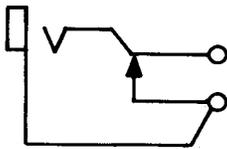

Fig. 10—232A or C Jack
2.10 232A and C: These single-mounted jacks (Fig. 10) are used with 1D, 1E, 153, 209, 241, 305, 327, 328, 347, 373, and 464 plugs. These jacks are heavily insulated. These jacks are mounted with the springs in a vertical plane. The 232C replaces the 148 jack.